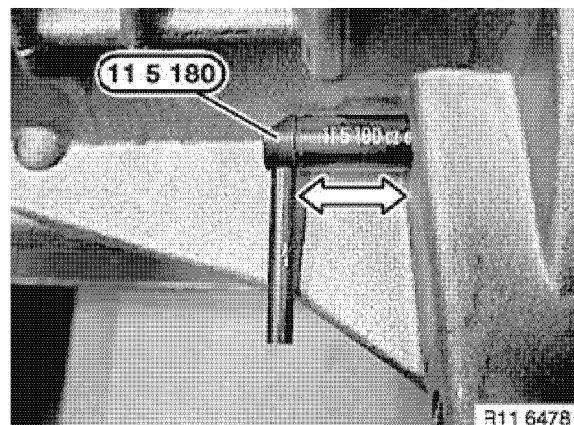

Figure 5-44
16. Rotate crankshaft using the crankshaft dampener bolt until No. 1 cylinder is at TDC. Secure flywheel using flywheel holding tool OEM No. 11 5 180 (**Figure 5-44**).